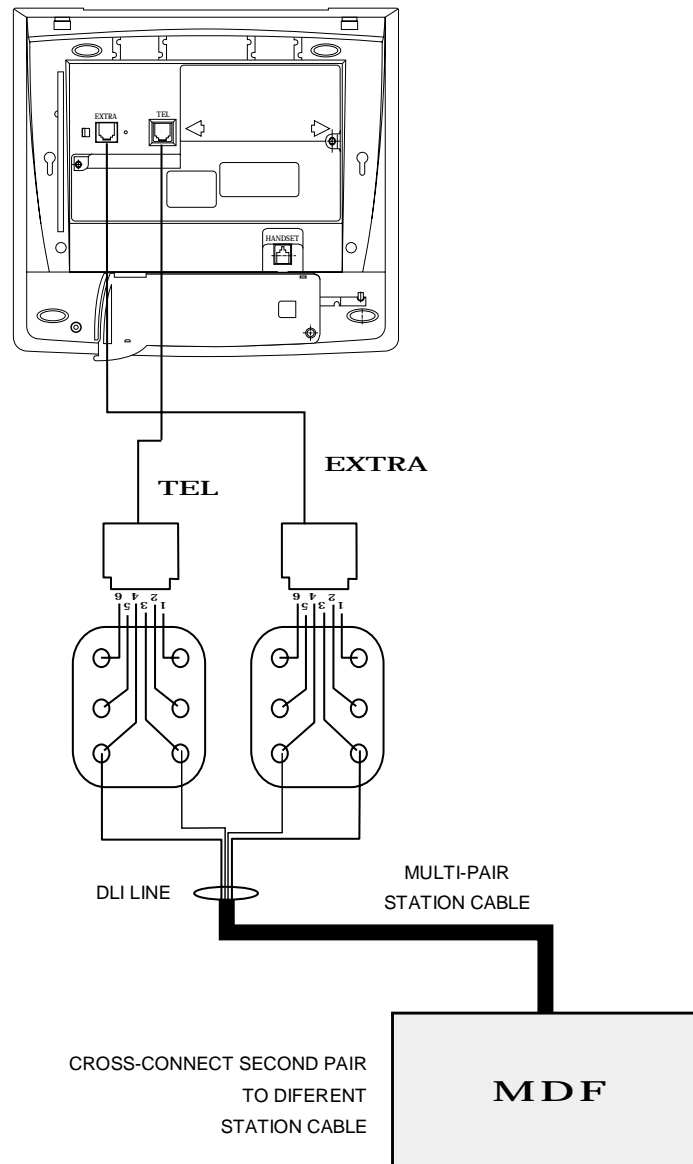

FIGURE 8-6 CONNECTING FOR MDF (Euro KTS)
6. Connect modular jack of phone line with DLI line of basic system. (See Figure 8-6)